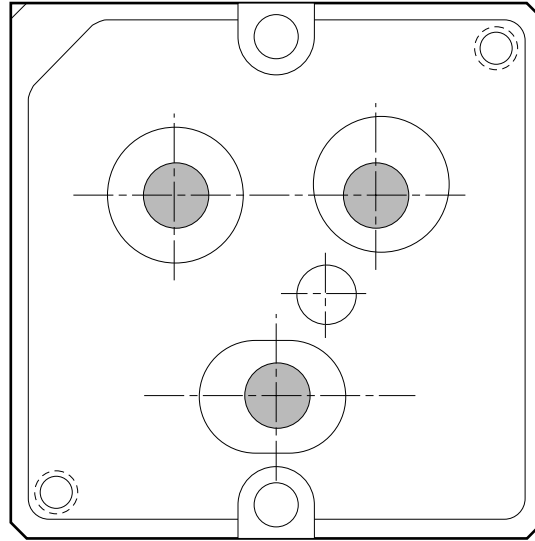

Figure 7O-9. Agilent 10737L Compact Three-Axis Interferometer — return beam pattern
- 11** Check the position of the beams in the interferometer's output apertures (see Figure 7O-9).